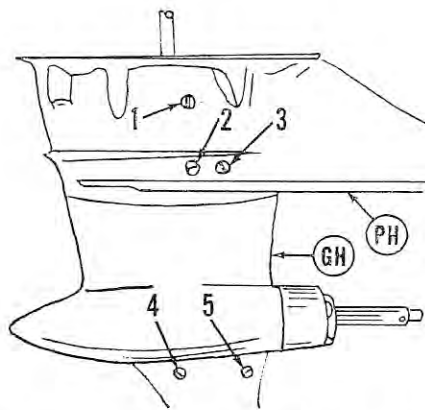
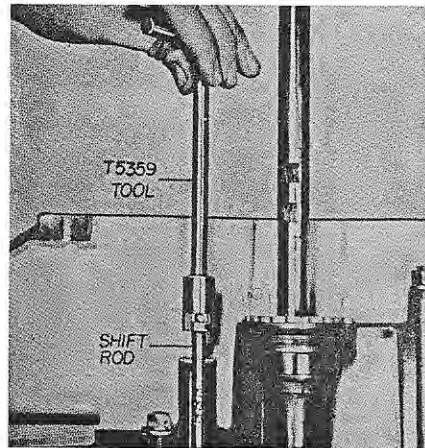
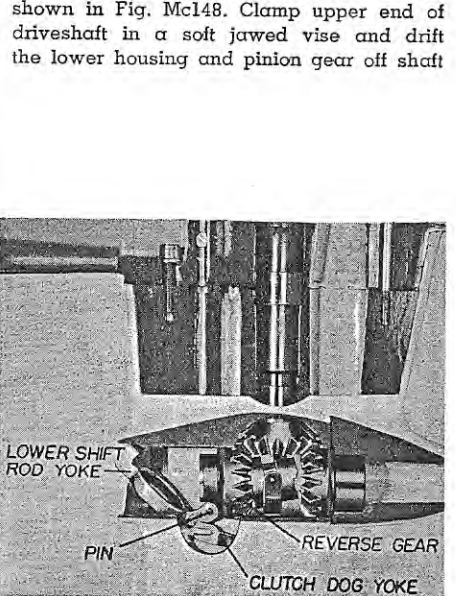

Fig. Mc145 — Custom Flying Scott lower unit showing plug and pivot screw location.
Fig. Mc146 — Using the special tool to remove the shift rod.
Fig. Mc147—Shift rod yoke must be tipped for removal. Refer to text.
Before removing the driveshaft or gears, the shift linkage must be disassembled using the following sequence. Remove pivot yoke bolt (1—Fig. Mc145) from port side of pump housing, then remove the pivot yoke. Use the special tool T5359 to unscrew and remove the lower shift rod as shown in Fig. Mc146.
Remove the clutch dog yoke screw (4—Fig. Mc145), press forked end of yoke (16—Fig. Mc143) downward and pull lower end of shift rod yoke (11) rearward until pin is disengaged from forked end of yoke (16). Lift yoke (11) up so that pin rests on top edge of forks, then push lower end forward until upper end clears housing as shown in Fig. Mc147. Withdraw the lower shift rod yoke from housing then remove the reverse gear (13—Fig. Mc143) and bearing (12). Remove clutch ring (14), clutch dog (15) and clutch dog yoke (16).
(1) and gearcase housing (18). After unit is assembled, adjust the shift mechanism for equal travel into either gear by threading the shift rod (10) in or out of yoke (11). Adjustment is correct when detent notches travel an equal distance beyond the detent hole (3—Fig. Mc145). Remove the detent assembly to view the movement when making the adjustment, and turn the propeller shaft to make certain that gears are fully engaged.